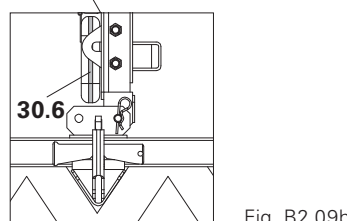

Fig. B2.09b
9. Re-hang lifting gear in the front crane eyes (30.6). (Fig. B2.09b)